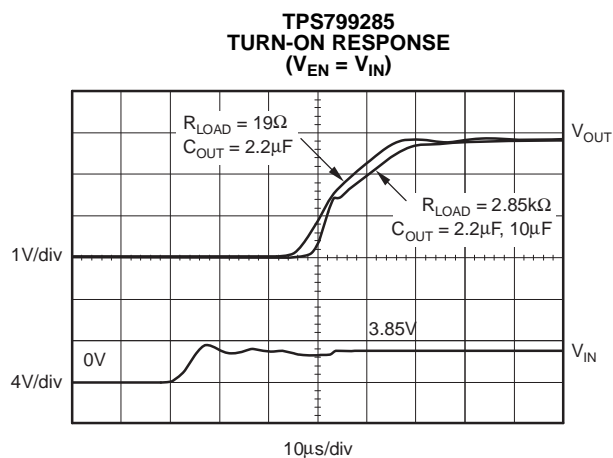
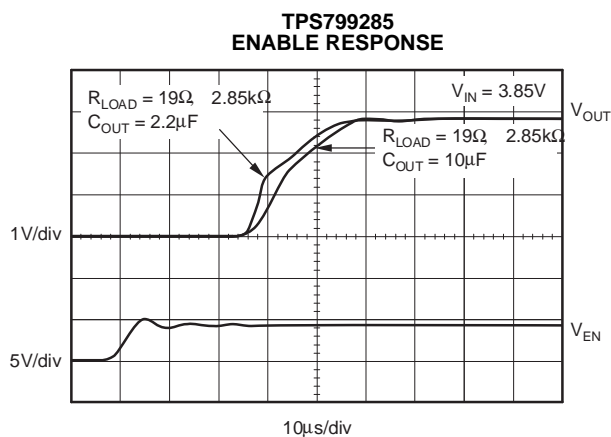

Figure 25.
Figure 26.
Note that for fastest startup, V_{IN} should be applied first, then the enable pin (EN) driven high. If EN is tied to IN, startup will be somewhat slower. Refer to Figure 25 and Figure 26 in the *Typical Characteristics* section. The quick-start switch is closed for approximately 135 μs . To ensure that C_{NR} is fully charged during the quick-start time, a 0.01 μF or smaller capacitor should be used.